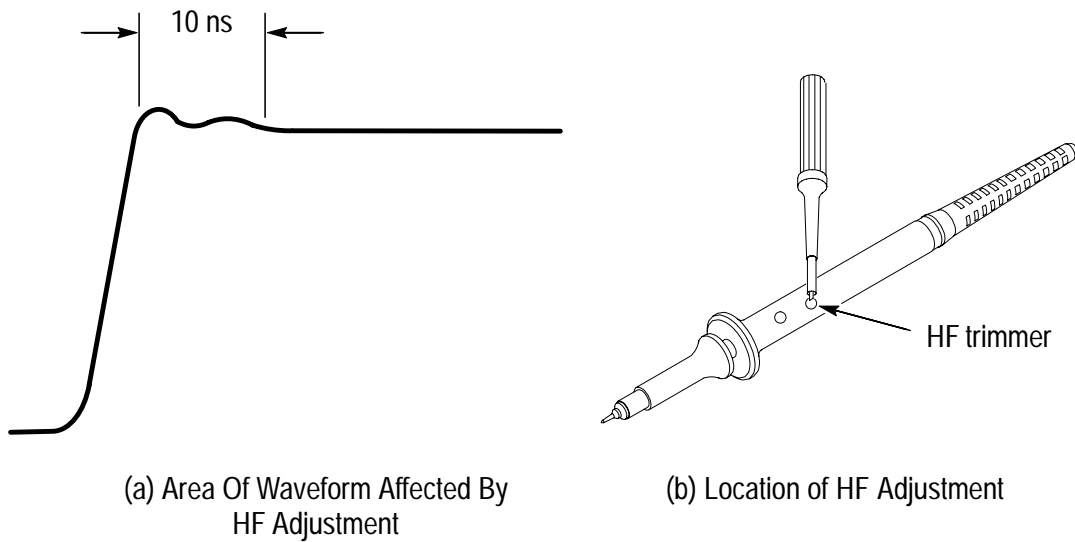

Figure 1: HF Compensation
1. Connect the probe to the signal source to display a 1 MHz test signal on your oscilloscope. The display should be similar to that shown in Figure 1(a).